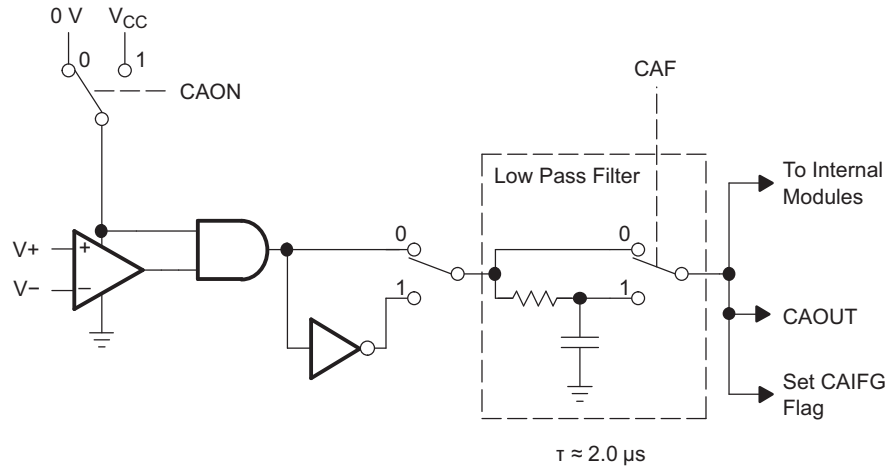
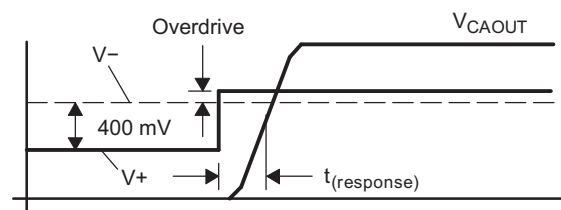

Figure 32. Comparator\_A+ Module Block Diagram
Figure 33. Overdrive Definition
| t (response)           | Response time, low to high and high to low (3)(see Figure 32 and Figure 33) | T A = 25°C, Overdrive 10 mV,Without filter: CAF = 0                                     | 2.2 V      | 80   | 165                 | 300  |